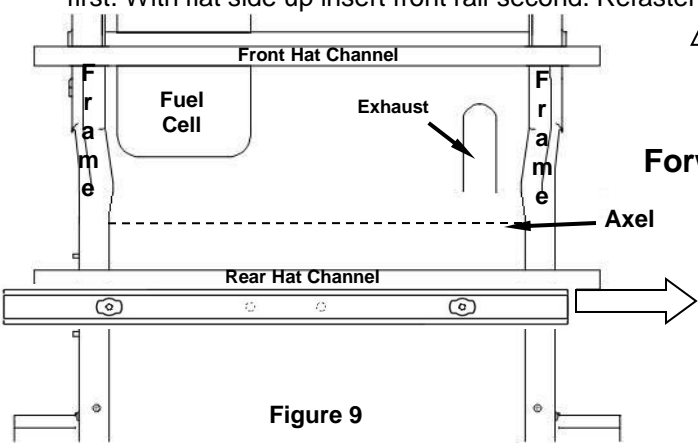

Figure 9
8. Insert rails as shown in the following steps (**Figures 9 through 14**). With flat side up rear rail should be inserted first. With flat side up insert front rail second. Refasten truck bed bolts after rails are inserted.